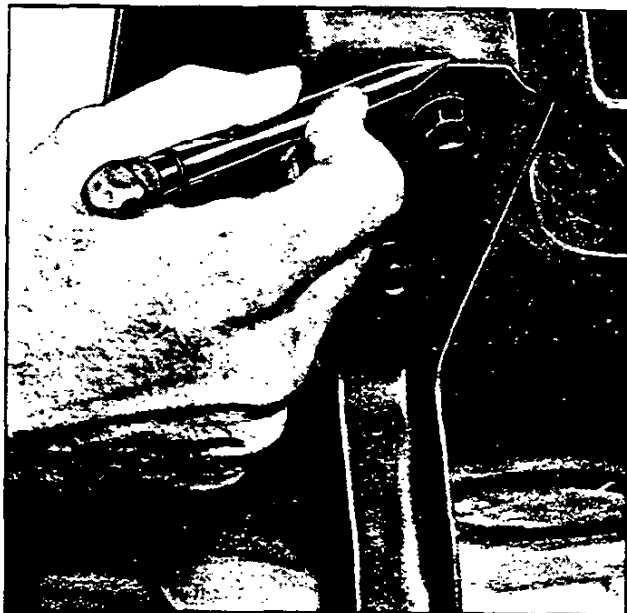

Fig. 41—Marking Hinge Position
1. Scribe a line on lid surface following contour of hinge strap. This line will assist in observation of lid movement during adjustment (fig. 41).
1. Scribe around hinge as shown in Figure 41.
2. Hinge is removed as an assembly by opening top compartment lid fully, and removing three (3) retaining screws. Note number of shims found between hinge assembly and compartment doors and floor.